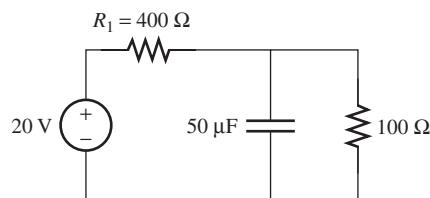

FIGURE P5.31 Circuit for Problem 5.31.
- 5.31 (A)** Find the current flow through the resistor R_1 at $t = 0$ and $t = \infty$ in Figure P5.31. Assume that $v_C(t = 0) = 0 \text{ V}$.